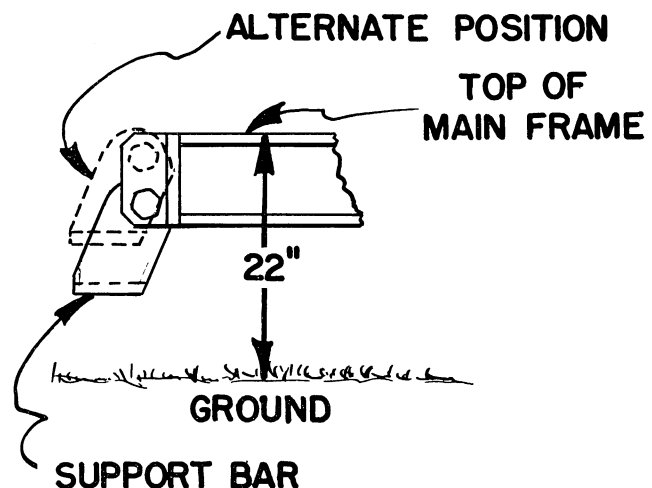

FIGURE 2
If necessary, reposition the drawbar braces so that the top of the frame at the front of the mower will be between 20 and 22 inches above the ground figure 2.
2. With the mower and tractor on a level area adjust the mower frame height to 22" as shown in Figure 2, by the use of the jack.
3. If necessary, position the support bar in the alternate height, as shown in Figure 2 and adjust the height of the tractor drawbar so that the support bar will just pass over it. When the mower is standing on the jack it should not be lowered more than one or two inches when attaching to the tractor.